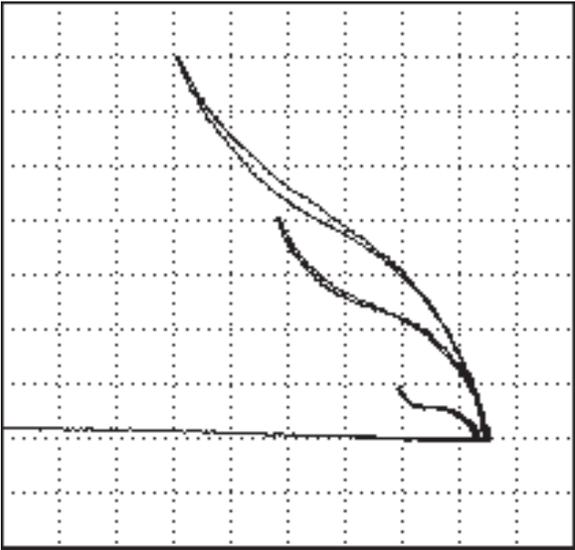

Figure 4-2. Surface Flaw Detection
8. Slide the probe smoothly over the three EDM notches. The response should look similar to **Figure 4-2**.